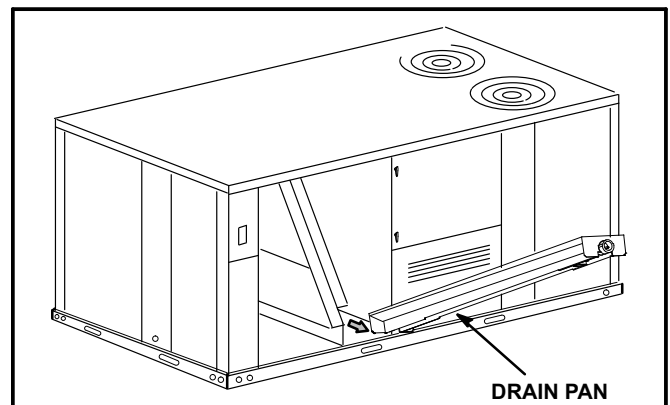

**FIGURE 6**
2- Remove six screws from filter access door. Refer to figure 6.
- 2- Remove six screws from filter access door. Refer to figure 6.